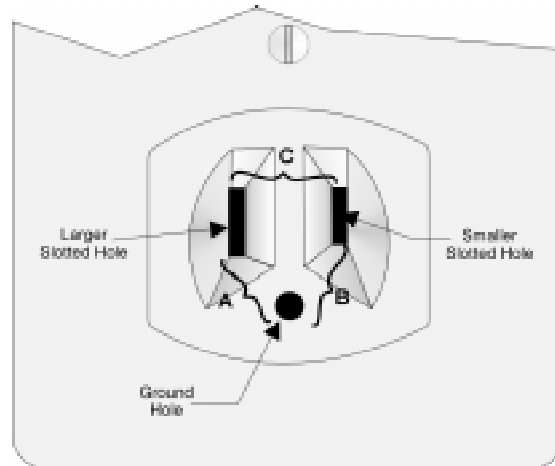

Figure 3-13 Outlet Voltage Measurement Points
1. Measure the AC voltage between the center ground post and each side of the outlet (see A & B in Figure 3-13). You should read approximately 120 VAC (or 240VAC for 240VAC circuits) at measurement point B and nominal VAC at measurement point A.
2. Measure the voltage between the two slotted holes. It should be equal to the voltage reading at measurement point B. (See Figure 3-13.)